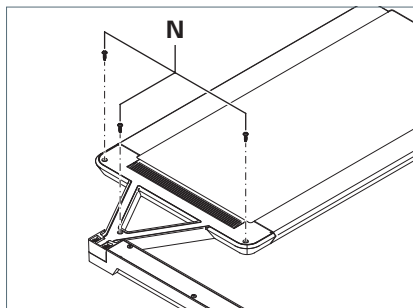

Fig. 18: Screwing the cover tight.
2. Screw the cover tight using the three screws **N**, see Fig. 18.